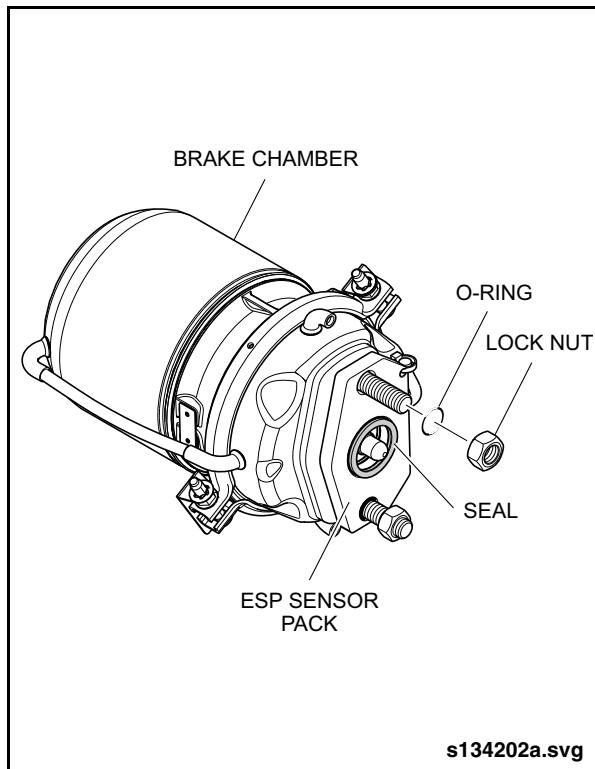

Fig. 2-142: Rear Brake Chamber ESP Sensor Pack
- a. Note the position of the ESP sensor pack and carefully remove it from the brake chamber. Retain the two O-rings. See "Fig. 2-142: Rear Brake Chamber ESP Sensor Pack" on page 124.